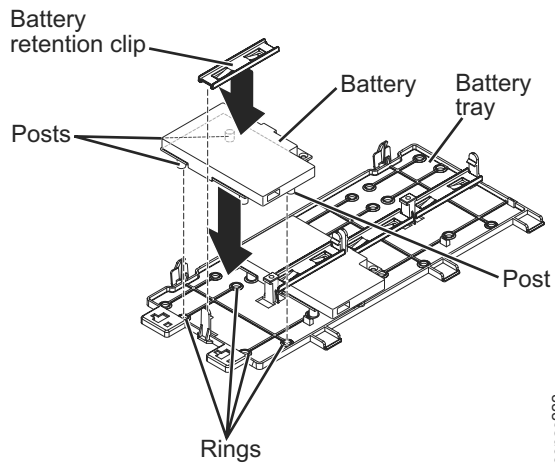

Figure 36. Locating the posts on the battery and battery carrier
3. On the remote battery tray, find the pattern of recessed rings that matches the posts on the battery and battery carrier. See Figure 36.